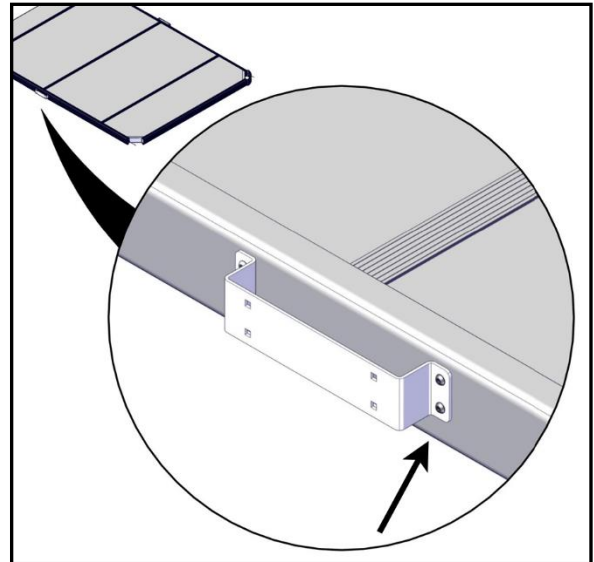

FIGURE 56: SUPPORT BRACKET SCREW TIGHTENING
- When you are satisfied with the required gap and the straps are secured, **tighten the two screws (5 ft-lb torque)** see Figure 56.